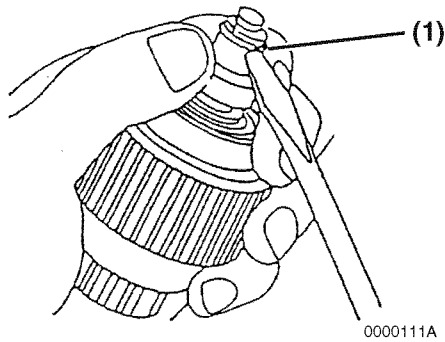

Figure 10-10
11. Using a flat-blade screwdriver, remove the retaining ring (**Figure 10-10, (1)**) from the shaft of the pinion.